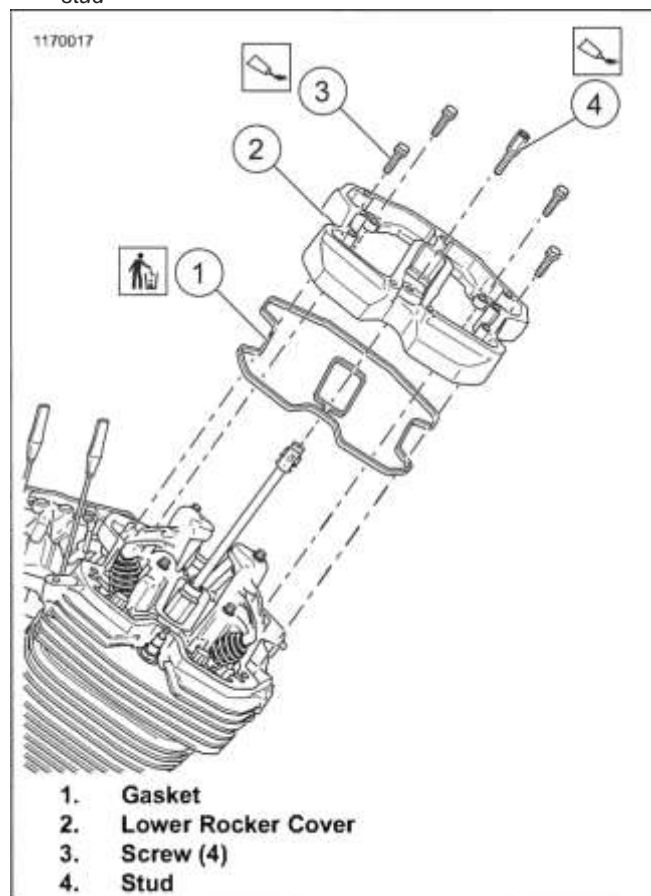

Figure 4-21. Lower Rocker Cover
1. See Figure 4-21. Remove screws (3) and stud (4).
1. See Figure 4-21. Install new gasket (1).
2. Install lower rocker cover (2).
3. Apply threadlocker to screws (3) and stud (4).